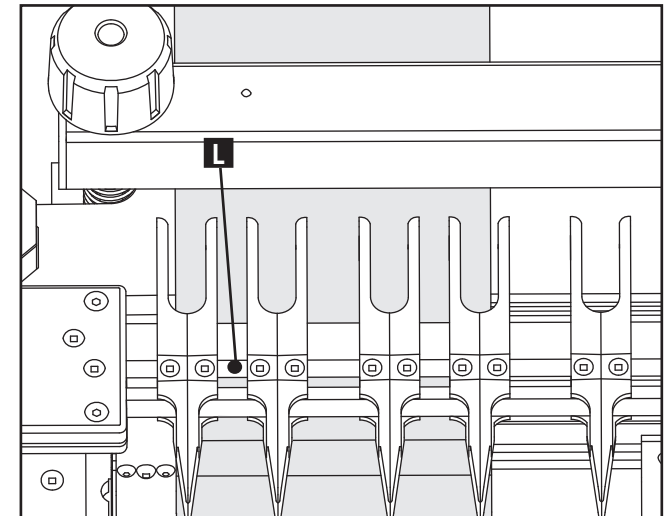

Fig. 18
4. Space the template's fingers in the desired configuration. Refer to Fig. 18 for an example, though even spacing of the fingers is not required.
NOTE: For wood greater than 3/4" thick, it is recommended the finger sets do not touch. The gap (L) Fig. 18 between each finger set should be at least 1/4". This gap assists you in making a second cut without accidentally gouging the path made by the first cut.